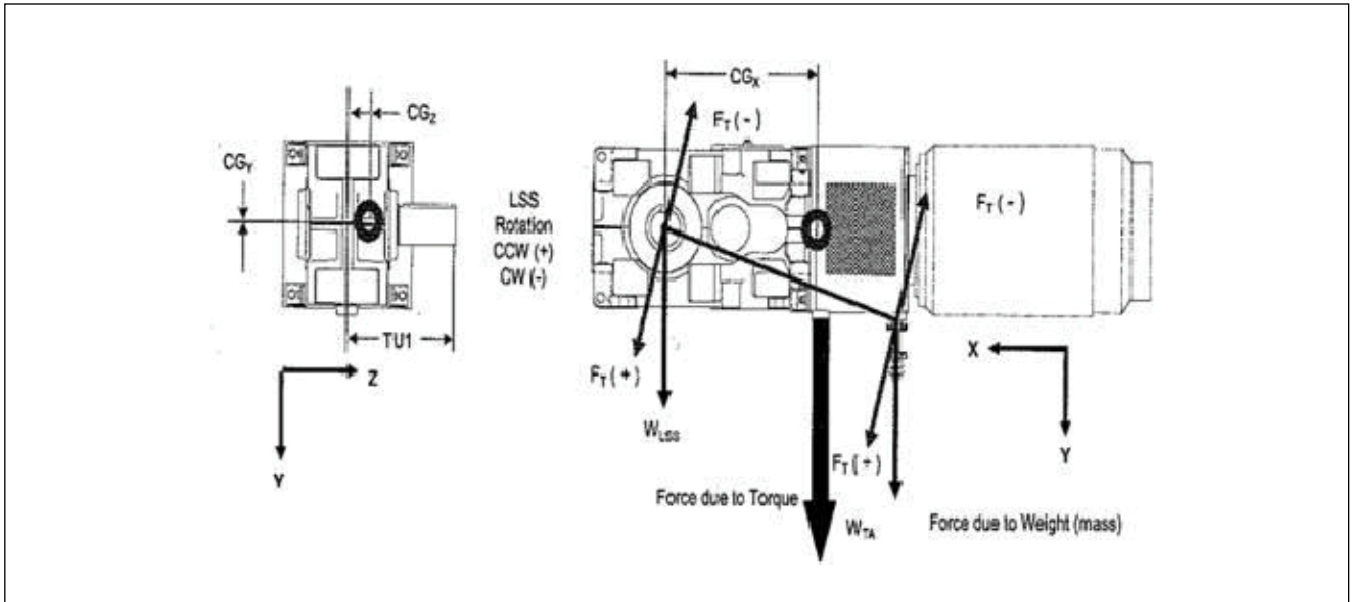
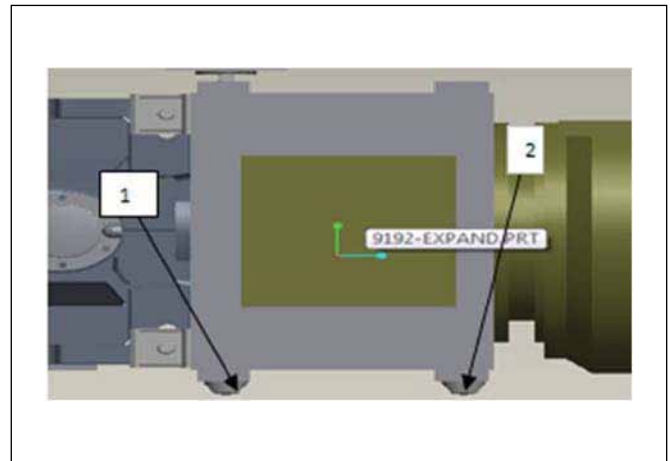

Figure 4—Free-body diagram.
Figure 6—Torque arm positions.
Static analysis. The reducer housing is connected to the rest of the assembly by four bolts at the high-speed, end-face of the housing. Besides the bolts there is also a fail-safe device in the form of brackets at the four corners of the end-face of the housing. As a conservative approach, static analyses were conducted with and without the brackets. The free-body diagram of the entire drive system is given in Figure 4, and it details how the loads were applied.
Many of the high-stress areas are the sharp edges and holes. Higher stresses are due to the stress concentration in the area where the geometry is smaller and thinner. These are the particular areas of concern. Two cases arise as a result of variable torque arm location (Fig. 6)—(1) the torque arm is designed in such a way as to only allow slight movement in the negative Y-direction (Fig. 4); and (2) when the loads associated with a counterclockwise output shaft rotation are applied, the reducer is forced down on the torque arm, allowing no further movement along the Y-direction.
With the model constrained at the torque arm location (Ref. 1; Fig. 6) with zero degrees of freedom in every direction, high stresses were seen on the structural tubing in Figure 7a. This tubing and the area surrounding show stresses above failure. Figure 7a shows that stress concentration in two major areas—the circular mounting hole and the round corners of the structural tubing. The maximum stress on the structural tubing is 543 MPa, and it occurred on the outermost edges of the exterior of the tubing. This stress concentration area is very small and should be omitted due to stress singularities at those points.